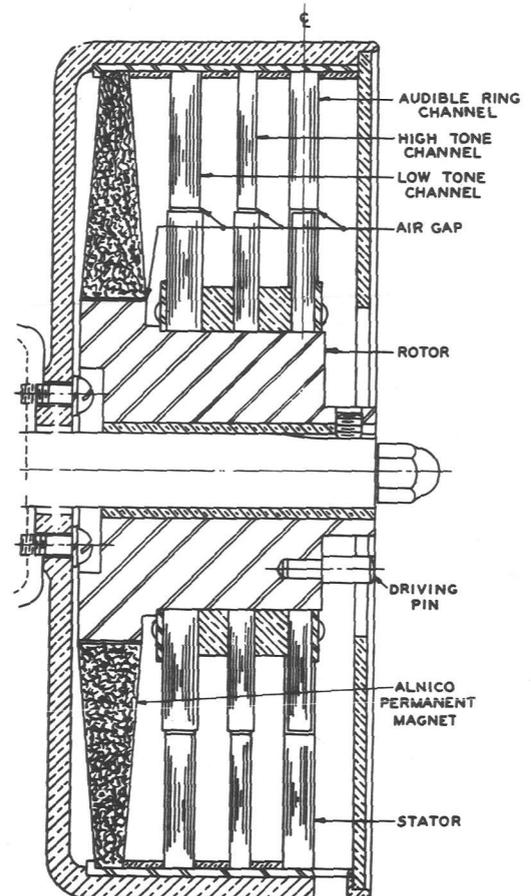

Fig. 4 - Cross Section of Tone Alternator
(1) Before replacing an alternator rotor, it is necessary to remove the low speed interrupter gear case. Mark and remove the brushes on the interrupter and lift the brush holder studs out of their brackets, first loosening the acorn nuts, or, as an alternative procedure, mark and disconnect the leads. Remove the cap screws which secure the gear case to its support and lift it off, observing the position of any shims. Remove the drive link which is used for connecting the pins on the rotor with those on the coupling half of the interrupter. Remove the acorn nuts that secure the cover to the alternator frame. Mark the longitudinal position of the rotor on the shaft so that the new rotor may be replaced in the same position. With the small screwdriver or the set screw wrench, loosen the set screws that secure the rotor to the shaft extension.
(2) Attach the rotor puller to the rotor, placing the screws of the puller into the holes provided in the rotor for the purpose. Tighten the screws with a screwdriver until they are firm. Carefully tighten the forcing screw of the puller with the wrench, being very careful to see that the rotor does not brush against the stator, until the rotor is forced off the shaft.
(3) Mount the new rotor on the shaft with the driving pins facing outward. Take care not to damage the laminations in the rotor or stator. Tap it carefully with the hammer, placing a hardwood block on the edge of the rotor hub to protect it from the direct blow of the hammer. The rotor should be driven back until it rests in the marked position. Tighten the setscrews that secure the rotor to the shaft extension. Use a screwdriver or setscrew wrench, as applicable. Before putting on the coverplate make sure that the rotor turns freely. Replace the interrupter in the reverse order from that in which it was removed. Remount or replace the drive link as described in 3.07, or remount or replace the leather coupling as described in 3.08.
(4) When installing a rotor in a tone alternator which is equipped with permanent magnet excitation, proceed as outlined above, setting up the rotor puller as before, but with clearance between the forcing screw and the end of the shaft. As the work progresses back out the forcing screw as required to permit the rotor to be driven to its final position. This precaution will prevent the rotor from being drawn abruptly into the stator by the magnetic field, with resulting damage, in a case of loose fit at the shaft. The work should be planned so as to reduce to a minimum the time during which the rotor and stator are separated.
(5) When installing a tone alternator on a P-type ringing generator for the first time, mount the stator as outlined in 3.02 (2). Then mount the rotor as outlined in (3) and (4) above. Drive it back until the center-line through the outer rotor channel coincides with that through the outer stator channel. See Fig. 4, which shows a cross section of the alternator.